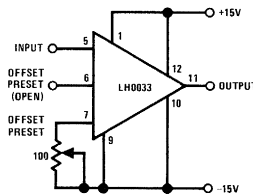

FIGURE 1. Offset Zero Adjust for LH0033 (Pin nos. shown for TO-8)
**Offset Voltage Adjustment:** Both the LH0033's and LH0063's offset voltages have been actively trimmed by laser to meet guaranteed specifications when the offset preset pin is shorted to the offset adjust pin. This pre-calibration allows the devices to be used in most DC or AC applications without individually offset nulling each device. If offset null is desirable, it is simply obtained by leaving the offset preset pin open and connecting a trim pot of 100 $\Omega$  for the LH0033 or 1 k $\Omega$  for the LH0063 between the offset adjust pin and  $V^-$  as illustrated in Figures 1 and 2.